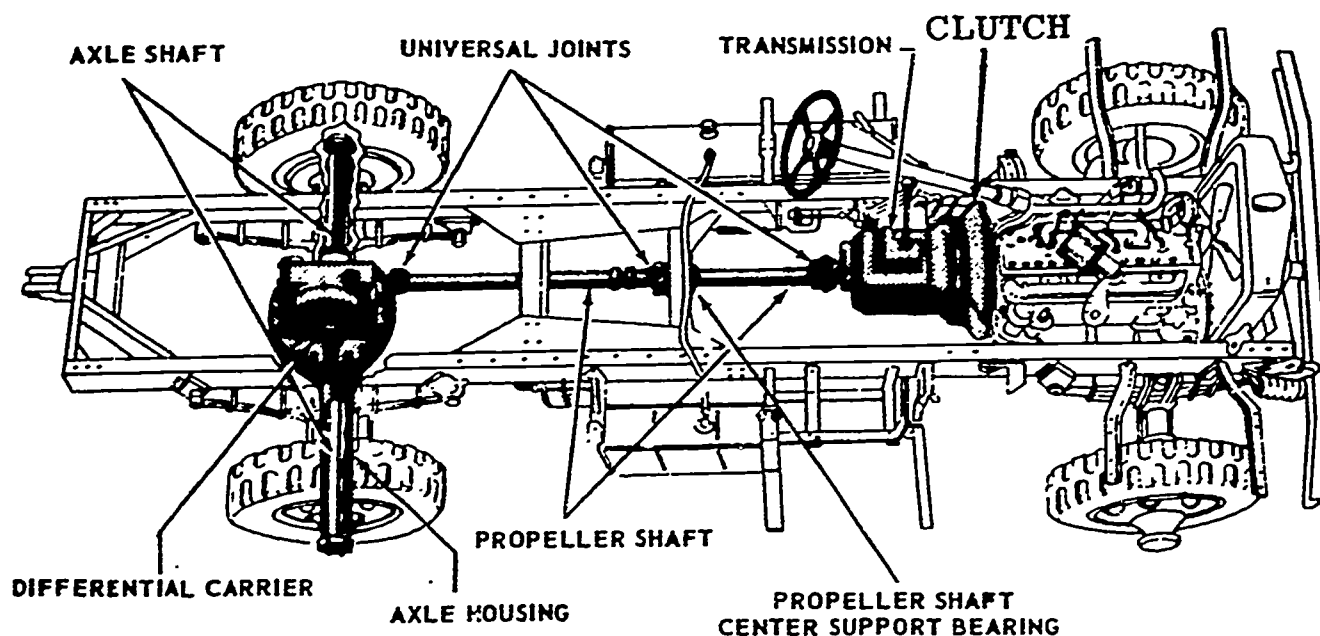

Fig. 1 Clutch location in the power train
**LOCATION** -- The clutch is located between the engine flywheel and the transmission (non-automatic) on most applications as shown in Figure 1.